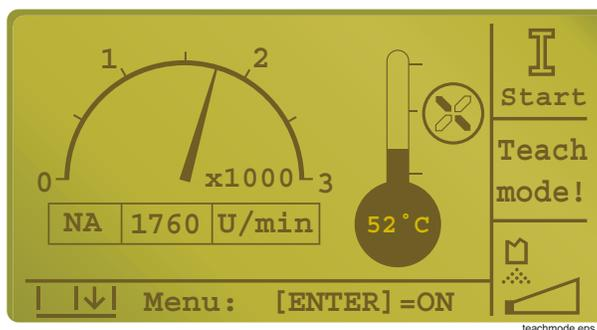

Figure 21
3. The display window on the controller cover will show that the unit is in teach mode and the “I” in the upper right hand corner will be flashing, which indicates that you need to activate the reset “I” switch to start the “*Teach mode*” process (Figure 21).